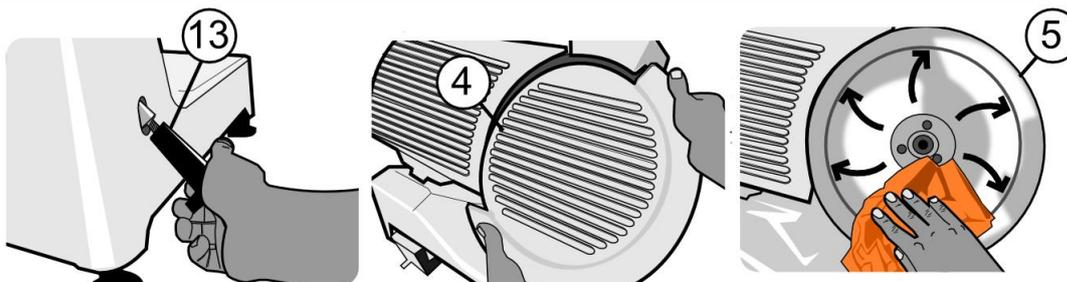

FIG 9. STEPS FOR KNIFE CLEANING
**C. KNIFE (See Fig. 9).**
- 1.- Loose the knife guard knob (13) by turning it counter clockwise. Knob´s at the backside of slicer.